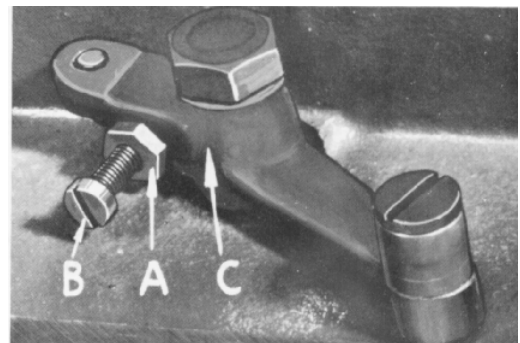
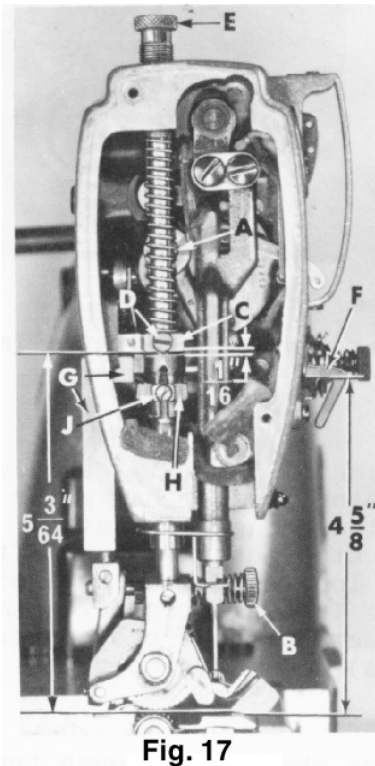

Fig. 16
Fig. 17
The presser spring (A, Fig. 17) should exert only enough pressure on the feed rollers to make the work feed uniformly. To increase the pressure on the preser foot, turn presser spring regulator (B, Fig. 17) in a clockwise direction.
When locating presser bar guide (C, Fig. 17) presser foot must rest directly against throat plate. Proper setting of guide is 5 3/64 inches between underside of presser bar guide and the top of throat plate (Fig. 17). To obtain this setting, remove pressure from the presser spring (A) and loosen set screw (D). Tap on presser foot to insure it is down against throat plate. Set guide to the 5 3/64 inch dimension, center foot by turning it so needle enters the middle of its slot and retighten screw (D). Apply pressure to top
Set needle thread pull-up bracket (F) so that underside of wire is 4 5/8 inches above throat plate (Fig. 17).
Presser bar connection (G, Fig. 17) should be set about 1/16 inch below presser bar guide (C). Accomplish this by loosening lock nut (A, Fig. 16), and relocating stop screw (B) on lifter lever bell crank (C), located at the back of machine, under bed plate. Turning stop screw to right or left, properly sets presser bar connection. Tighten lock nut (A) to lock stop screw.
Tension release should be set so as not release when sewing over seams or when presser foot is raised. Adjustment of tension release cam (H, Fig. 17) and in and out position of tension assembly are required for proper operation.
The tension release cam (H, Fig. 17) should now be positioned by loosening set screw (J) and then rising or lowering cam (H) to suit the sewing conditions. The average release point is between 1/4 and 5/16 inch of presser foot lift above the throat plate. Tighten tension release cam set screw securely.